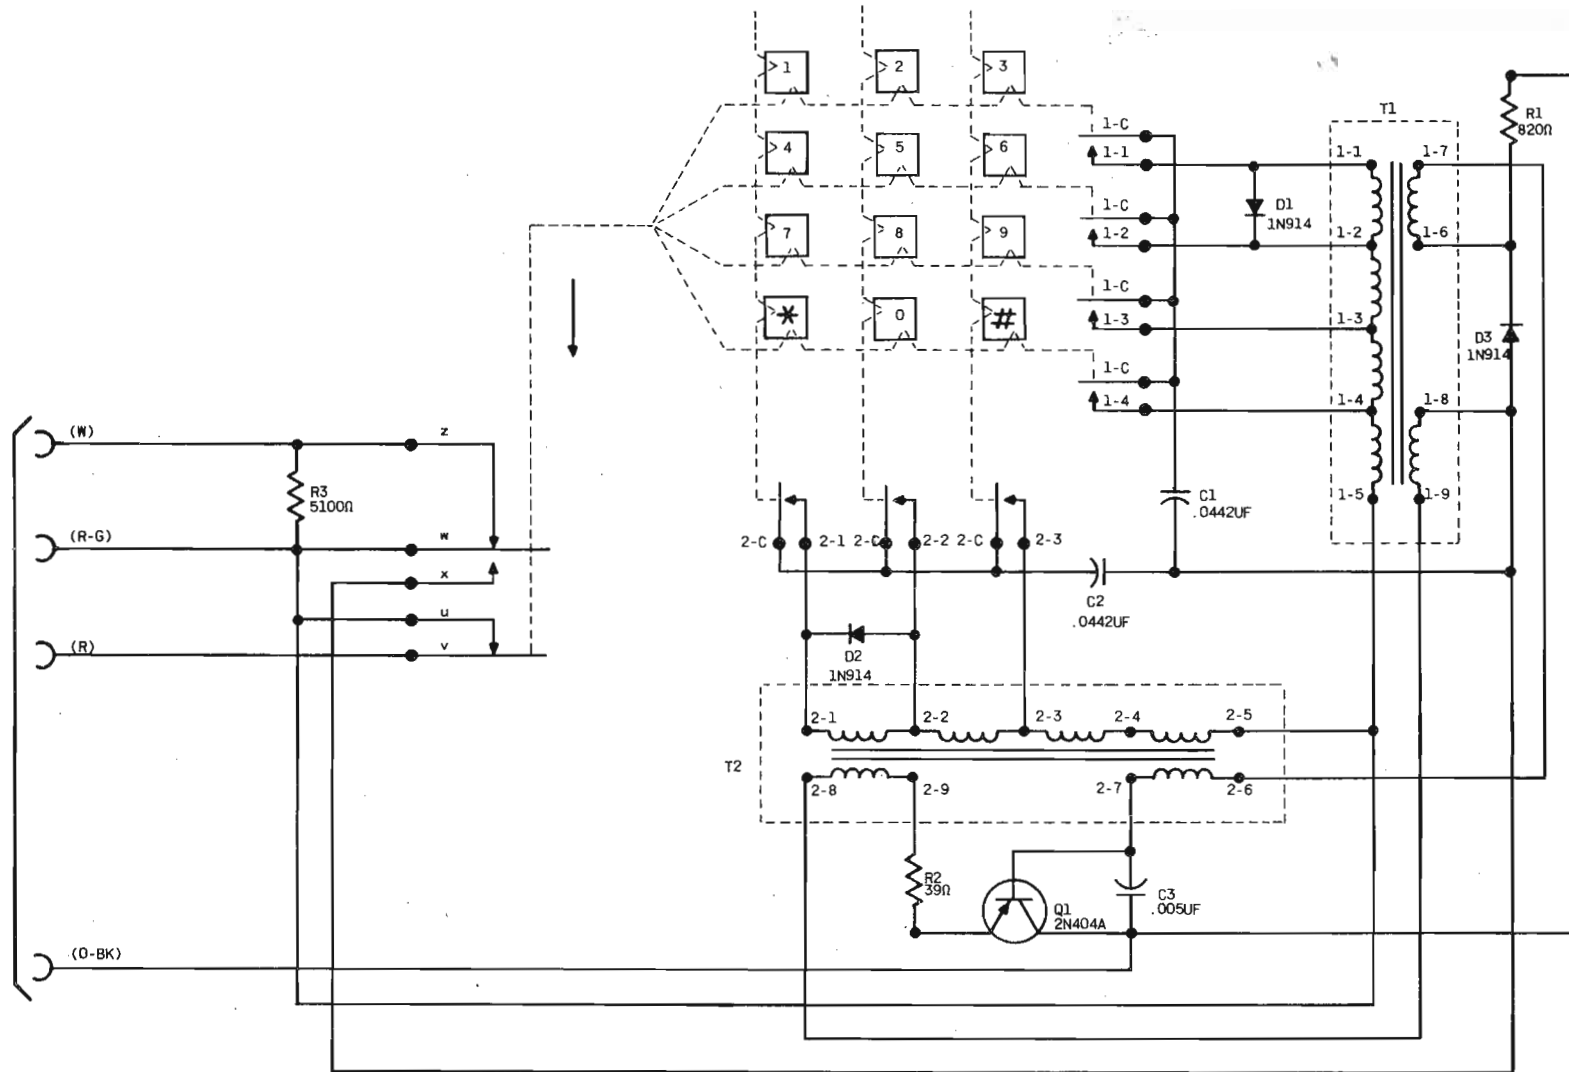

Fig. 10 - NE-35Q3J Dial Schematic (MD)
- Fig. 10 – NE-35Q3J Dial Schematic (MD)